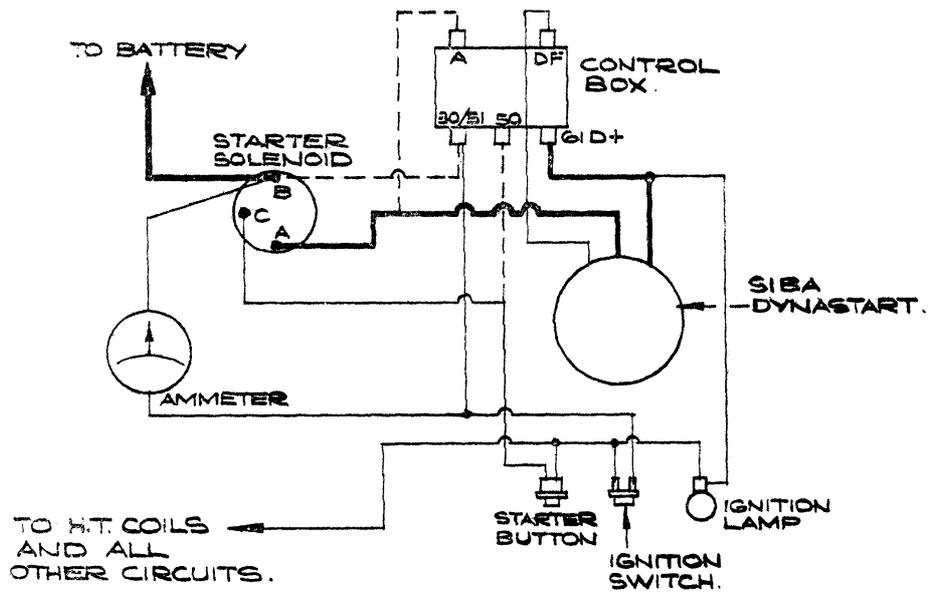

FIG. 2.
7. The circuit shown in Fig.2 can be compared with the one at the back of the Excelsior Handbook.